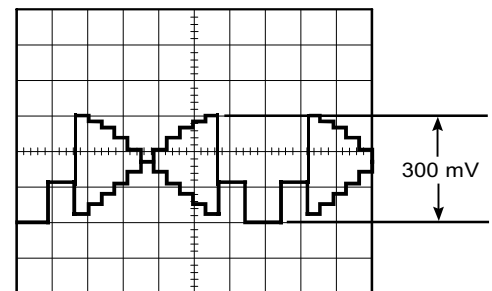

Fig. 4-8
- Set the Lens Iris so that the CDS OUT signal level at the pin 1 of CN2 becomes 300 mV as shown in Fig. 4-8 (for the Manual Lens).
- Adjust data with the **ARROW** keys so that the CDS OUT signal level becomes 300 mV as shown in Fig. 4-8 (for ALC Lens).